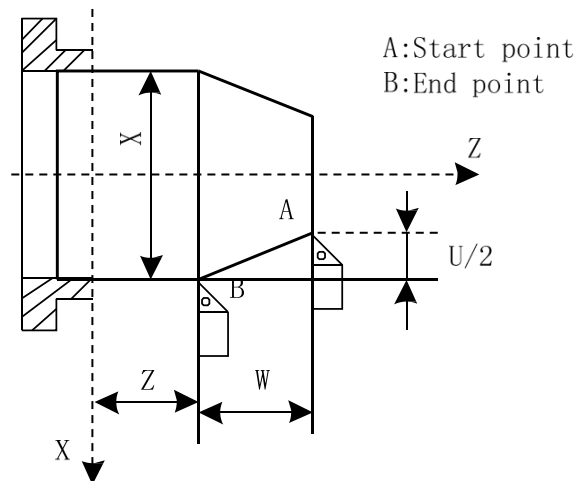

Fig. 3-3
**Command function:** The movement path is a straight line from starting point to end point as Fig.3-3.